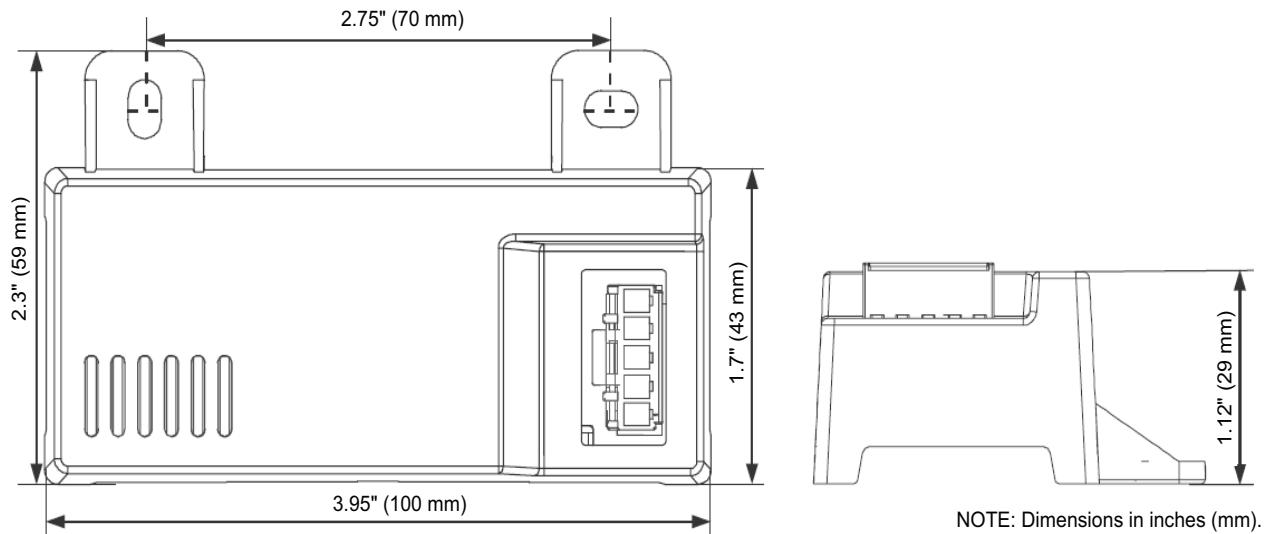
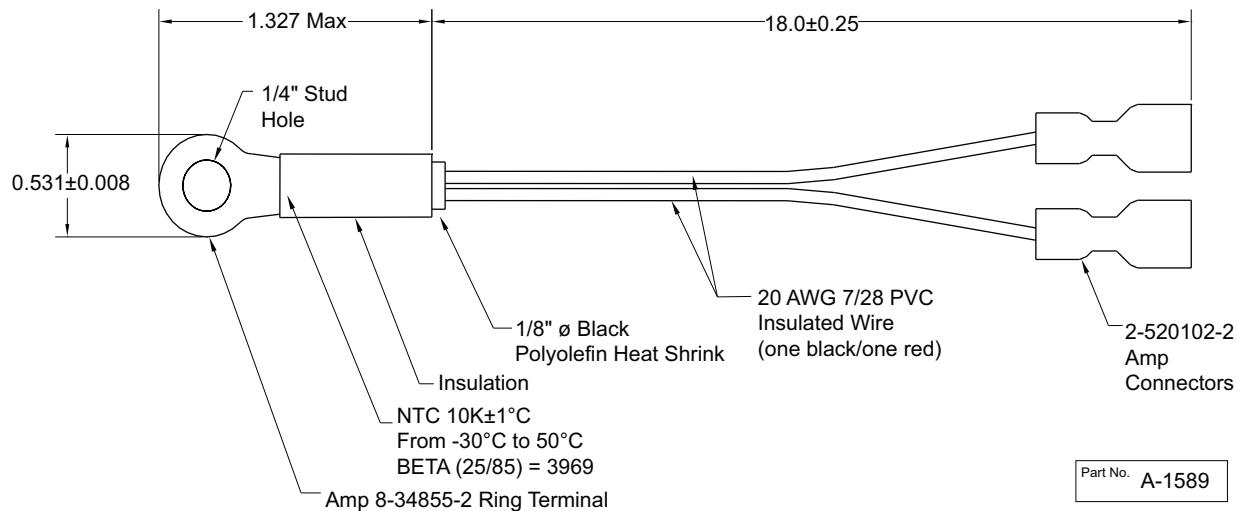
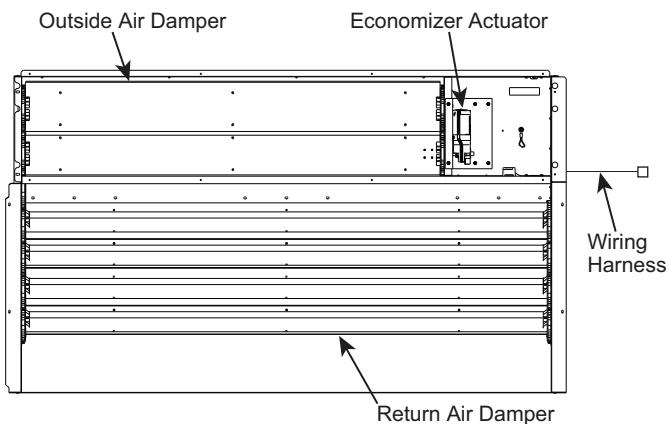

Fig. 86 — HH57LW001 Dimensional, Connection and Switching Information
Fig. 87 — HH79NZ039 Dry Bulb and Mixed Air Sensor Wiring
Fig. 88 — EconomizerONE System Component Locations
When using the HH57LW001 enthalpy sensor (see Fig. 86) for outside air changeover, the existing HH79NZ039 dry bulb sensor (see Fig. 87) must be removed. The enthalpy sensor will be mounted in the same location as the dry bulb sensor (see Fig. 88). When the enthalpy sensor's OA (Outside Air) temperature, enthalpy, and dew point are below their respective set points, outside air can be used for free cooling. When any of these are above their set point, free cooling will not be available. Enthalpy set points are configurable and create an enthalpy boundary according to the user's input. For additional details, see Fig. 89-90 and Table 40.
The optional enthalpy control sensor (P/N: HH57LW001) communicates with the POL224 economizer controller using the 5-wire harness, 48TC005213. The HH57LW001 sensor can be used as a single outside air enthalpy, a differential return enthalpy, or a differential return temperature sensor. Refer to the base unit control wiring diagrams found earlier in this book to wire the HH57LW001 enthalpy sensor for each option. See Fig. 86 and Table 42 on page 74 to locate the wiring terminals for each enthalpy control sensor.
Economizers are shipped standard with an HH79NZ039 outside air dry bulb sensor (refer to Fig. 87). System default setting (high temp limit) is 63°F (17°C) and has a range of 48°F to 80°F (9°C to 27°C). Sensor is factory installed on economizer.
If installing the optional HH57LW001 enthalpy sensor, the HH79NZ039 dry bulb outside air sensor must first be removed. Wire sensor to harness 48TC005213 and the (5) wires from the harness to the EconomizerONE harness in the return air chamber. Harness 48TC005213 has a 5-pin plug that connects directly to the HH57LW001 enthalpy sensor. Refer to the base unit control wiring diagrams earlier in this book for wiring connections. Refer to Fig. 86 and see Table 42.